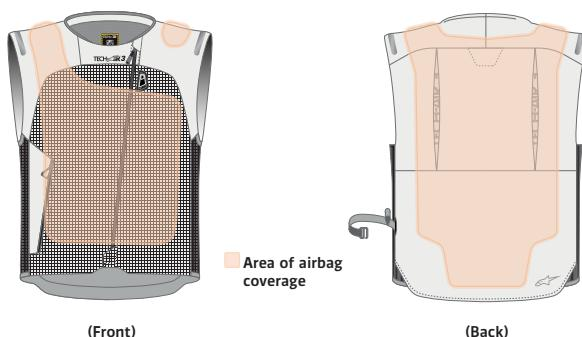

Figure 2: Area of Airbag coverage
The System provides impact protection, on the areas shown in Figure 2, to the user (both as rider and as a passenger) wearing the System in the event of an accident or other triggering events. Note that there are limitations to the protection it can provide as explained later in this user manual (see Section 3.2 and Section 4 "Limitations of Use").
**WARNING!** The System provides only limited impact protection against forces in the areas of Airbag coverage as depicted in Figure 2. No guarantee is given that the System will prevent injuries (including severe or fatal injuries) inside and/or outside the areas of Airbag coverage or the Envelope of Protection.